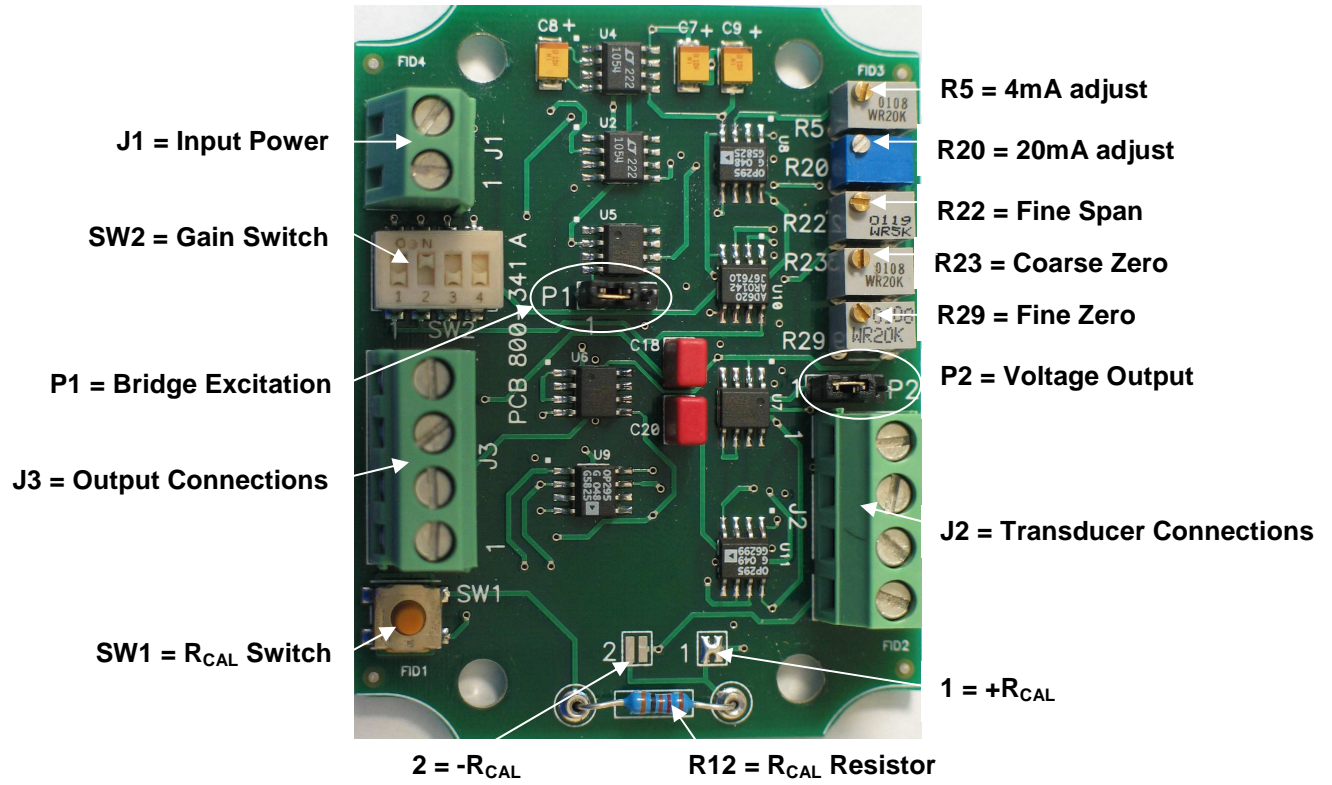

Figure 4 - Inside View
- c. Prepare the wire leads of the cable, then insert the input voltage wire into the screw 1 position on terminal J1. Reference Figure 4 for the J1 terminal location. Tighten the screw to fasten the wire in place.
Two analog outputs are available on the 8162 Series Signal Conditioner. The first is a voltage output that is jumper selectable to either ±5 or ±10 volts. The desired voltage output is set by the position of the P2 Jumper. Jumping pins 1 and 2 will set the conditioner to ±10 V_{OUT}. Jumping pins 2 and 3 will set the conditioner to ±5 V_{OUT}. Adjust Zero Balance and Span by using the R23, R29, and R22 potentiometers on the conditioner’s internal circuit board. Refer to Figure 4. Note that Zero Balance has both a coarse and fine adjustment.
A 4 to 20 mA current output is the second available output. The current output is adjusted using the R5 and R20 potentiometers. Reference Figure 4 for exact locations of the potentiometers.
Excitation voltage is set by the position of the P1 Jumper. See Figure 4. Jumping pins 1 and 2 will set the conditioner to 10 V_{EXC}. Jumping pins 2 and 3 will set the conditioner to 5 V_{EXC}.
The second method utilizes an R_{CAL} resistor to simulate a load on a strain gage bridge. The R_{CAL} resistor, located in the R12 position in Figure 4, is shunted across one arm of the strain gage bridge when the R_{CAL} Switch (SW1) is depressed. The shunt produces an imbalance equivalent to that of a particular value of mechanical input. If this *Equivalent Input* value is accurately known, it can be used as a reference point for shunt calibration of the system. Upon completion of installation of the transducer and its associated cabling, the user can:
- c. A 30K ohm resistor is installed at the factory and is used during final checkout of the instrument. It is replaced with a more proper value resistor when calibrated with a specific transducer to produce a more accurate shunt value. The resistor is mounted internally on terminal R12 located on the printed circuit board in the instrument. See Figure 4. It can be reached by removing the cover.
The polarity of the R_{CAL} may be switched by changing the solder jumper position on the R_{CAL} solder tabs located on the internal circuit board of the conditioner. See Figure 4 for the R_{CAL} solder tab locations. Solder applied to jumper 1 will yield a +R_{CAL}, solder applied to jumper 2 will yield a -R_{CAL}.
Table 2 illustrates the proper Gain switch settings on switch block SW2 (shown in Figure 4) based on the input signal from the sensor with which it is used. Set each of the four switches to either 1 (ON) or 0 (OFF) according to the sensor’s excitation voltage and sensitivity.